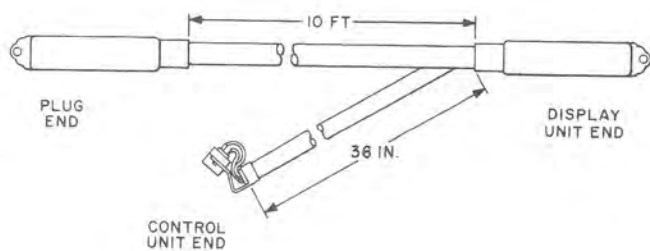

Fig. 5—D50AF Cord
**1.08 D50AF Cord (Fig. 5):** Connects the 1A display unit with the 72A control unit and 1A service unit. Cord is 10 feet long and is available in color.